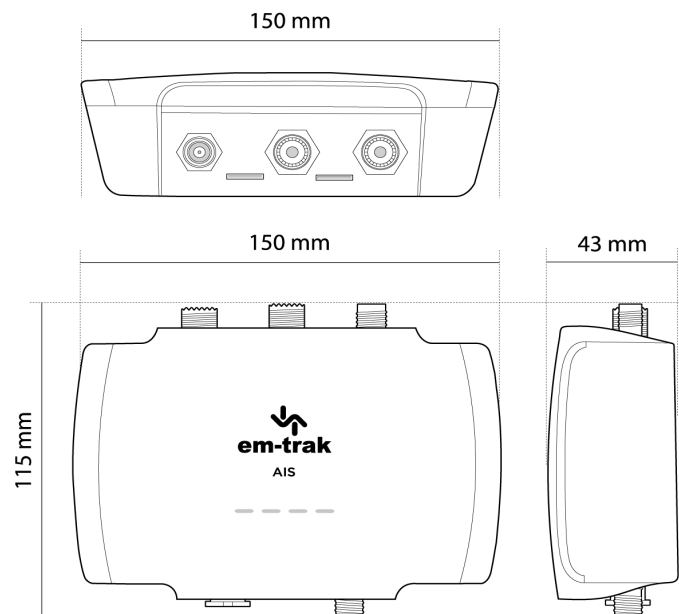

Figure 11 : Transceiver dimensions
- There should be adequate space around the transceiver for routing of cables. See Figure 11 for details of the transceiver dimensions.